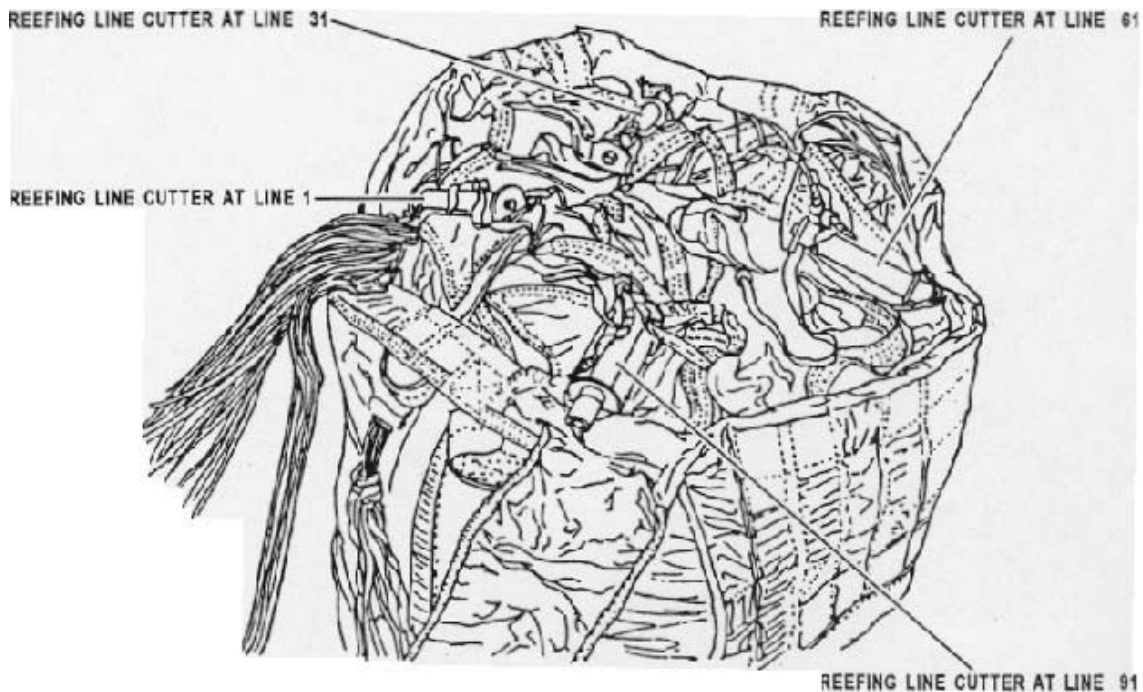

Figure 3-27
10. Arm the reefing line cutters for the G-11B. (See Figure 3-27)